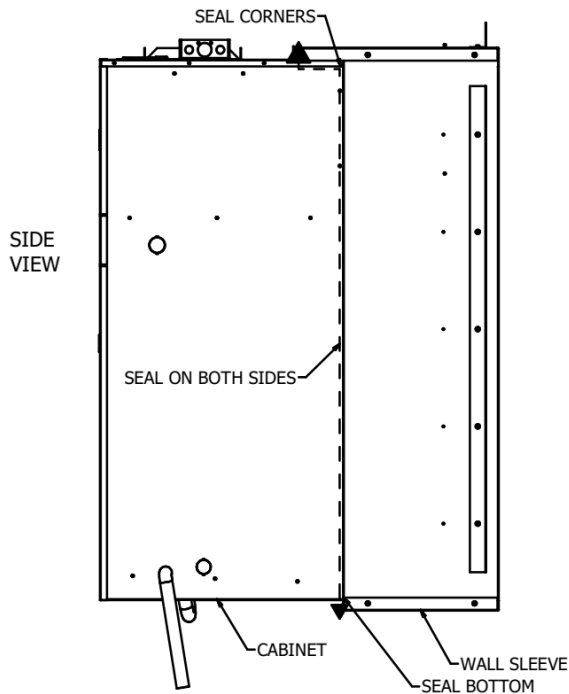

FIGURE 13 - Wall Sleeve Seal
2. Attach the bracket to the FIRST-PAK unit and the wall sleeve using the screws supplied with the wall sleeve. Refer to **FIGURE 13 - Wall Sleeve Seal**.
7. Inspect the sleeve seal, which is supplied with the sleeve, to ensure that it is properly secured and aligned (see **FIGURE 13 - Wall Sleeve Seal**).